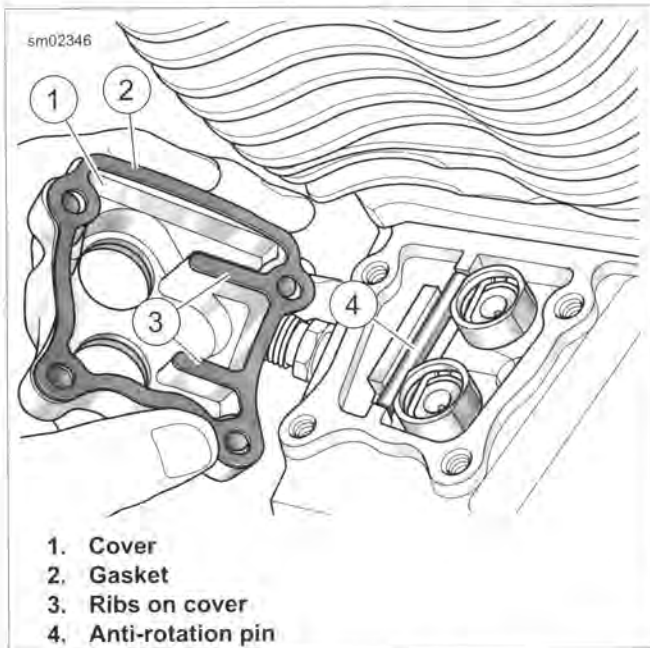

Figure 3-73. Installing Lifters
3. See Figure 3-73. Install the anti-rotation pin (4).